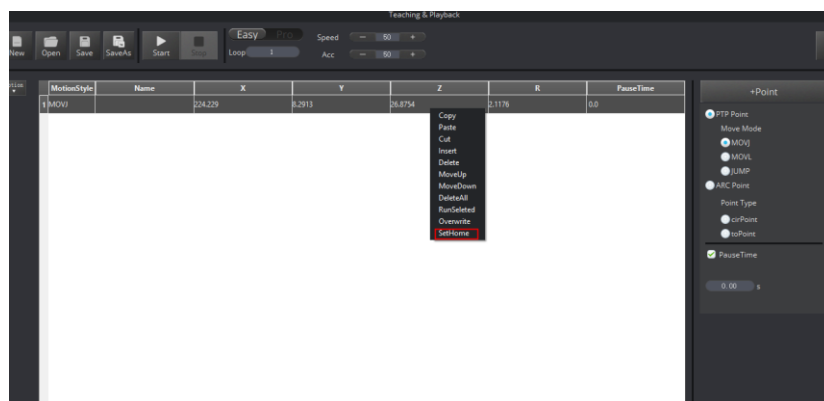

Figure 5.154 Set homing position
3. Select this point and right-click **SetHome**, as shown in Figure 5.154.